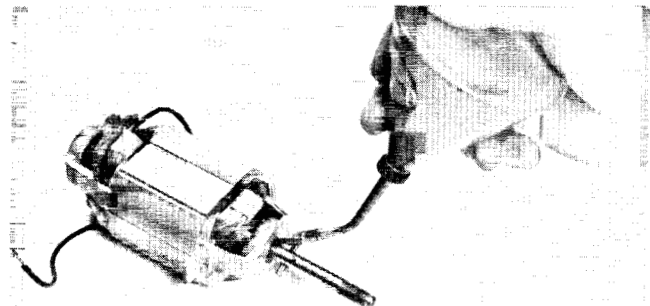

Figure 3.23
3.23 BAD BEARING – REPLACE MOTOR OR TRIMMER (fig. 3.23)